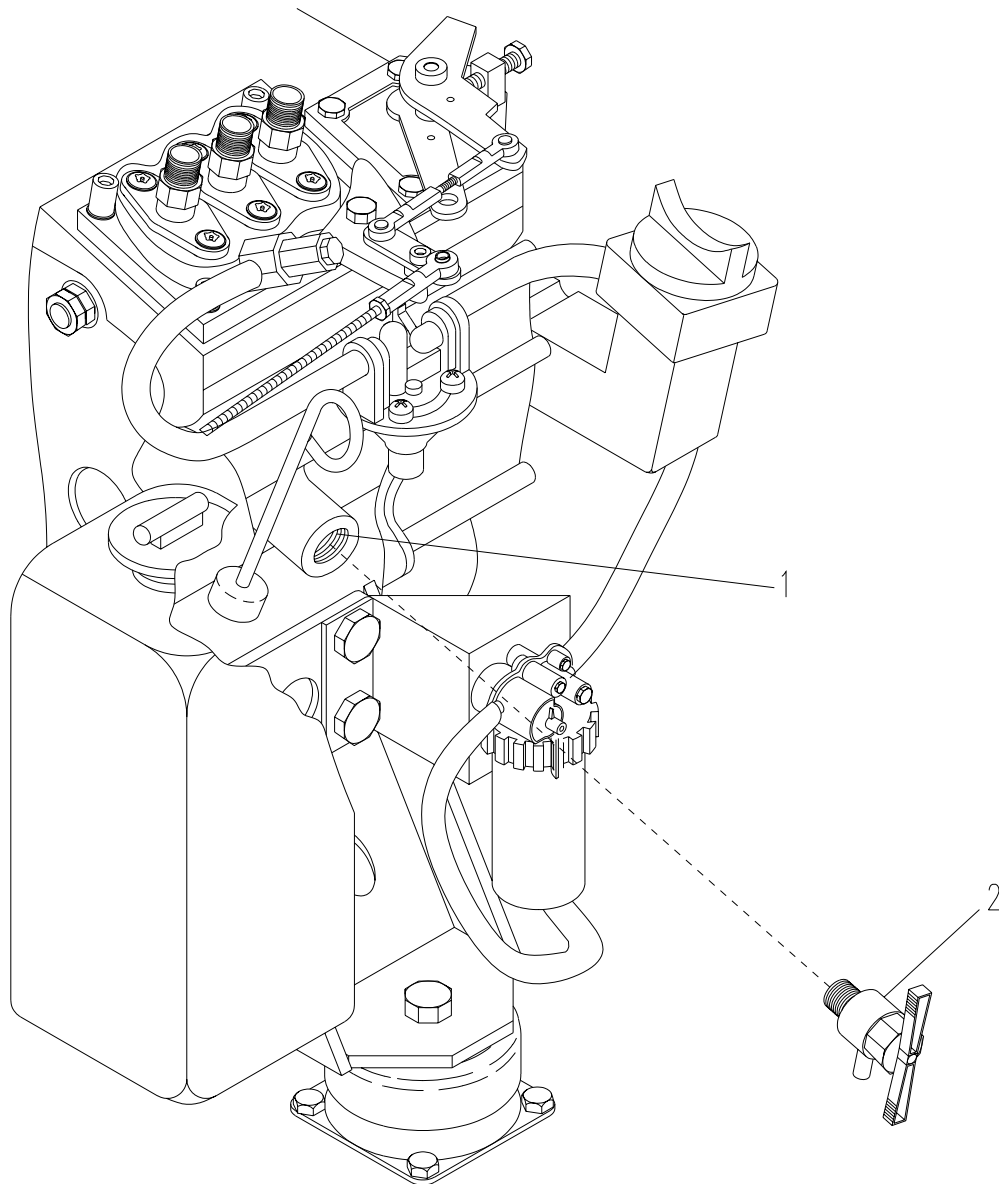

Figure 4-8. Engine Coolant Drain Valve
- a. Remove coolant drain valve (2, Figure 4-8) by turning ccw.
- b. Clean all old sealing compound from threads in engine drain hole (1).
- c. Apply sealing compound to threads on coolant drain valve (2).
- d. Install new drain valve (2) by turning cw.